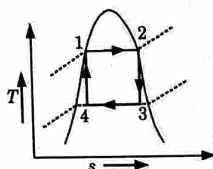

Fig. 1.17.1. Carnot vapour power cycle.
- It is an ideal cycle having highest thermodynamic efficiency. Carnot cycle is shown in Fig. 1.17.1.